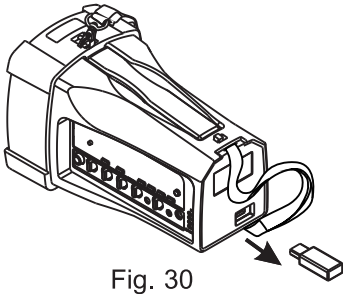

Fig. 30
- (A) Charge the battery completely in its first use to obtain its maximum capacity.
- (B) Connect to any available AC power outlet using the included DC adapter to the DC IN jack.
- (C) The Battery Charging Indicator **ⓑ** LED blinks while charging. Blinking LED may start later if the battery suffers from excessive battery drain. The battery may be damaged if the LED does not blink after charging for a while.
- (D) The battery is low when only the red LED is on. Please recharge the batter for at least 4 hours (the time of charging depends on the type of battery).
- (E) All LED blinking means the battery is charging. Charging completes when all LEDs glow.
- (F) Fully charge the battery for storage if it will not be used for an extended period of time. Battery may lose some capacity overtime. Over-discharged occurs and may damage the battery if not recharged for a long period of time. Thus, it is recommended to recharge often or every 3 months.
- (G) This device has 2 automatic power cut-off functions. Battery display will drop to red color for a period of time during low power status. Power will automatically shut-off to prevent battery operation. Recharge the battery immediately to avoid damage due to over-discharging.
- (H) Change to a new, fresh battery when battery hours are shortened after recharges due to battery aging.
- (I) All rechargeable batteries are consumables and have a limited lifespan, and eventually need to be replaced. A standard 14.8V lithium battery from MIPRO is recommended to ensure compatibility and performance.
- (A) Lay the PA system on a flat surface. Remove the USB disk, Fig. 30.